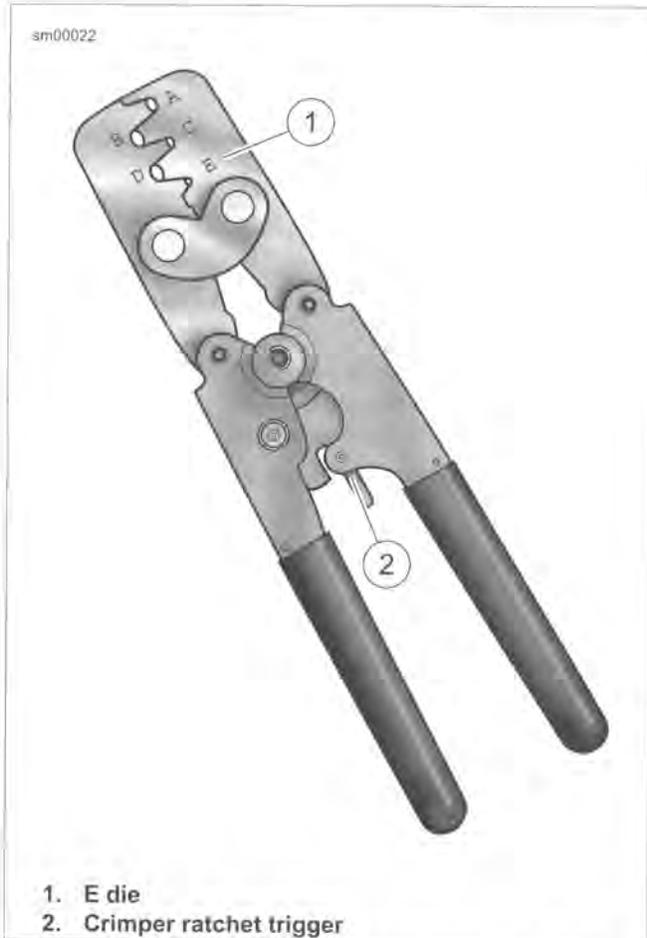

Figure A-37. Packard Terminal Crimper (HD-38125-7)
1. See Figure A-37. Compress the handles of PACKARD TERMINAL CRIMPER (Part No. HD-38125-7) until the ratchet (2) automatically opens.